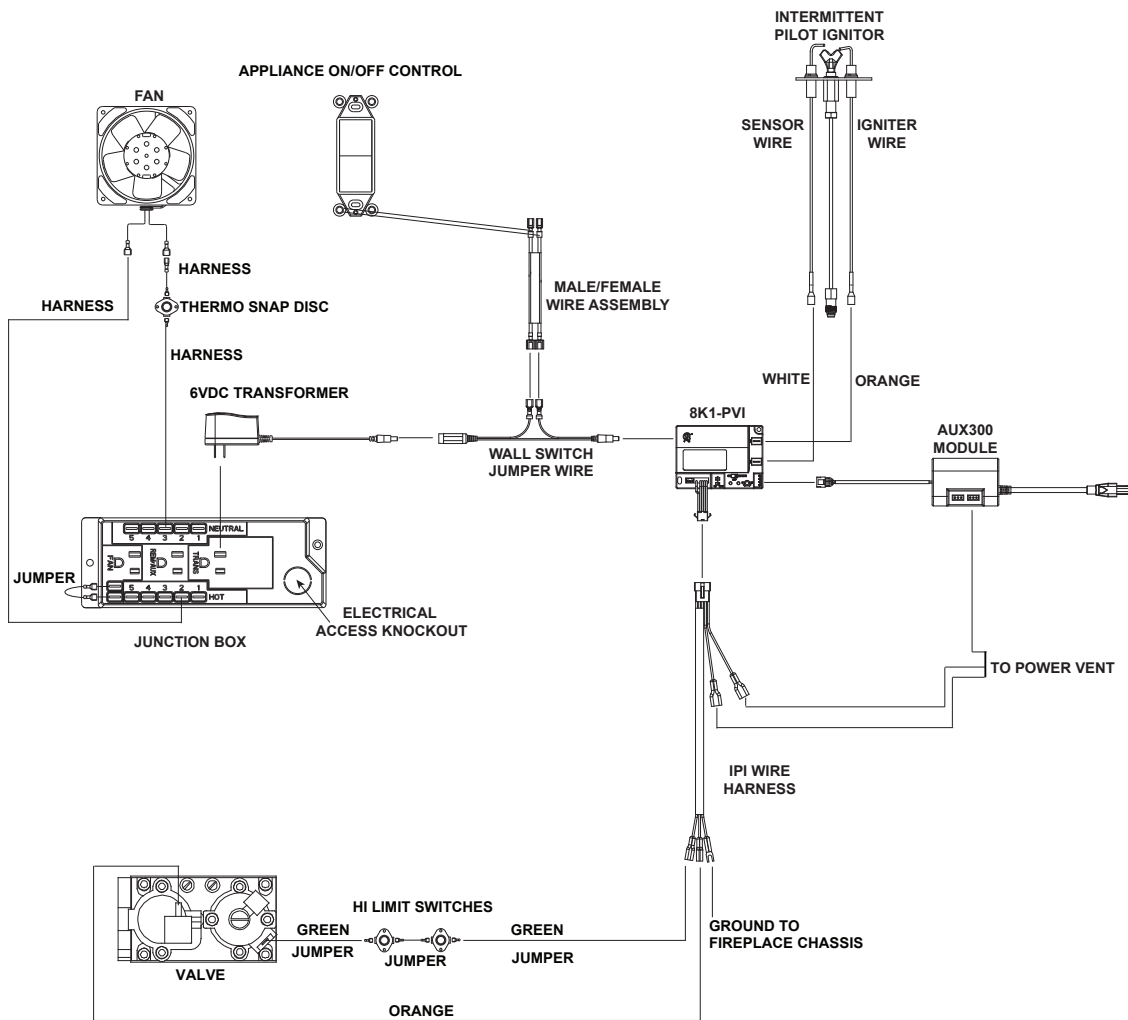

Figure 12.4 RED60 IntelliFire Plus Wiring Diagram
- Refer to Figure 12.4, IntelliFire Plus™ Pilot Ignition (IPI) Wiring Diagram.